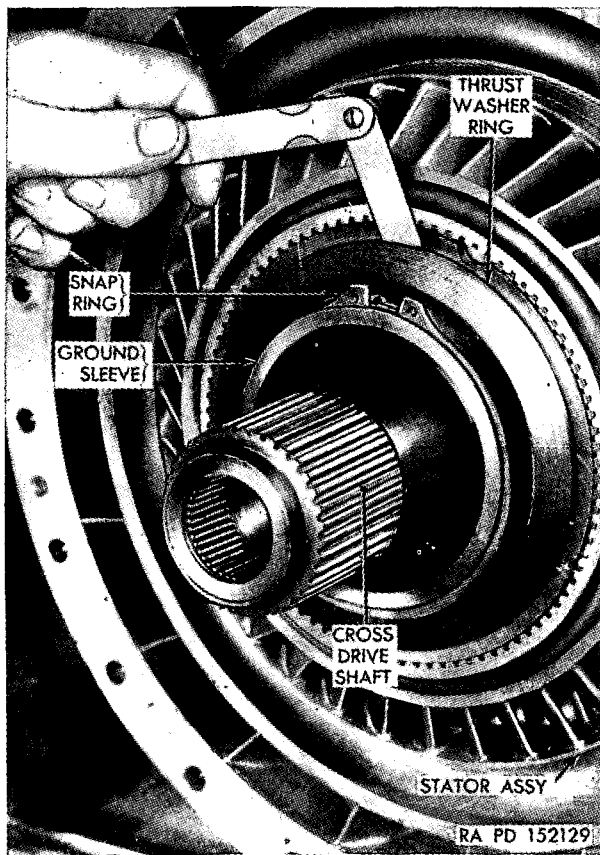

Figure 390. Checking converter stator end play.
- (5) Install the thrust washer on the ground sleeve. Install the locking ball in the recess in the ground sleeve. Install the stator retainer over the locking ball with the bevel side out (fig. 73). Install the retainer snap ring on the ground sleeve (fig. 72). Make sure the snap ring is all the way down into the groove. Check the stator end play with a feeler gage (fig. 390). The end play must be within 0.009 to 0.040 inch.
- (6) Install the turbine and shaft assembly into the lock-up clutch housing, engaging the gear on the turbine with the splines in the lock-up clutch plate. Install the gasket on the converter pump.
- (7) Install the lock-up clutch, main plate, and converter turbine assembly on the pump, rotating the turbine slowly to engage its splines in the converter output shaft. Align the holes and the gasket. Install the twenty-four $\frac{5}{16}$ -inch bolts. Tighten them snugly. They will be torqued later.